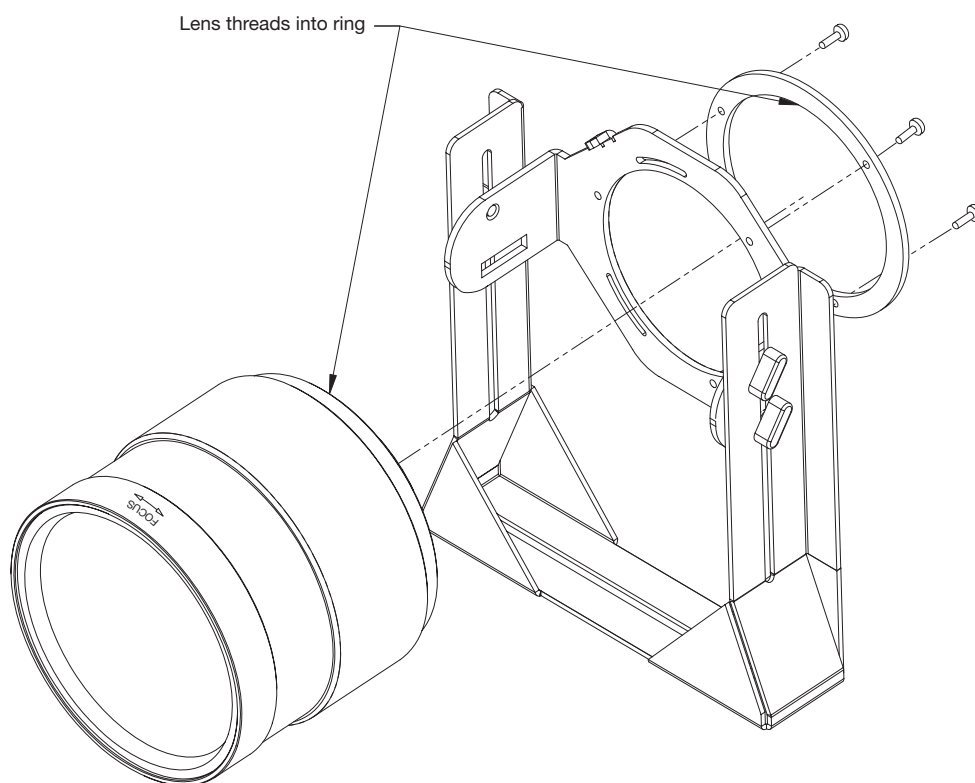

Figure 3-18. Attaching the Anamorphic Lens to the Lens Ring
4. Use the Lens Mounting Screws to attach the Lens Adapter Ring (item #1) to the Pitch Adjustment Yoke (item #2); see Figure 3-18. (Use the round, threaded holes on the yoke.)